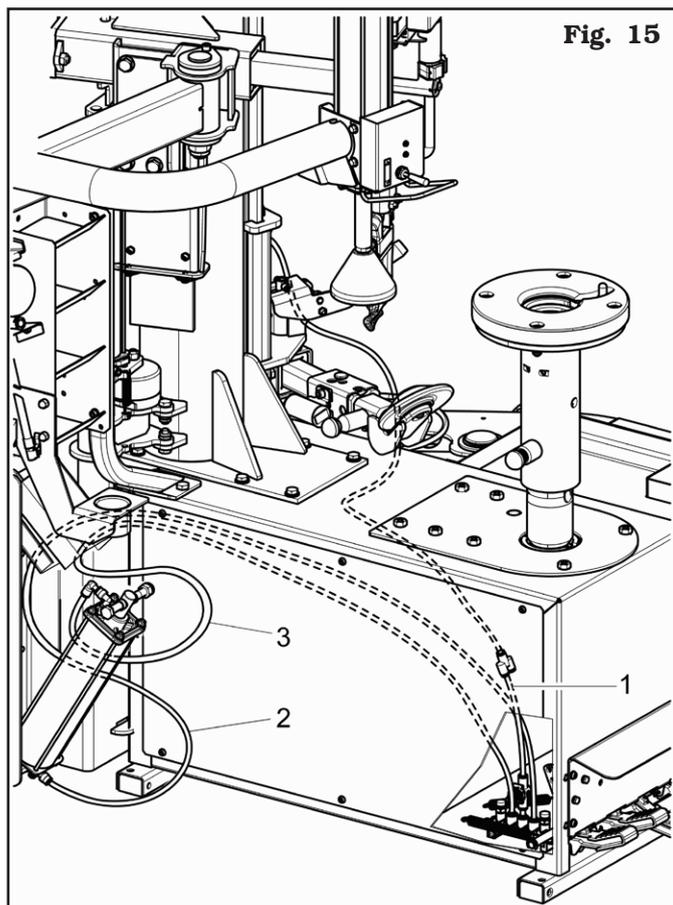

Fig. 15
7 - Fix the three pneumatic pipes (**Fig. 15 ref. 1-2-3**) coming from the pedalboard of the lifting device to the lifting cylinder and to the machine as indicated in **Fig. 15**.
- Pipe coming from the filter unit - pressure reducer (# 317007) (L=100 mm) (**Fig. 15 ref. 1**).
- Pipe coming from the lifting device's cylinder (# 317022) (**Fig. 15 ref. 2**) (L= 1000 mm) (low union).
- Pipe coming from lifting device's cylinder (# 317022) (**Fig. 15 ref. 3**) (L= 1200 mm) (high union).
BEFORE CONNECTING THE PIPES (FIG. 15 REF. 2-3), MAKE SURE THEY PASS THROUGH THE RUBBER FAIRLEAD PLACED ON THE MACHINE BASE AND THE LIFTING DEVICE FRAME.